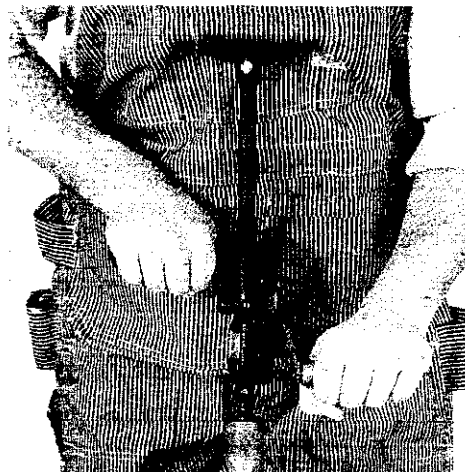

Fig. 10-56 Using a breast drill.
3. Locate the drill point in the mark. With the chest resting on the plate, proceed to drill by turning the crank and handle in a clockwise direction. See figure 10-56. Only a minimum of pressure should be applied to the plate.